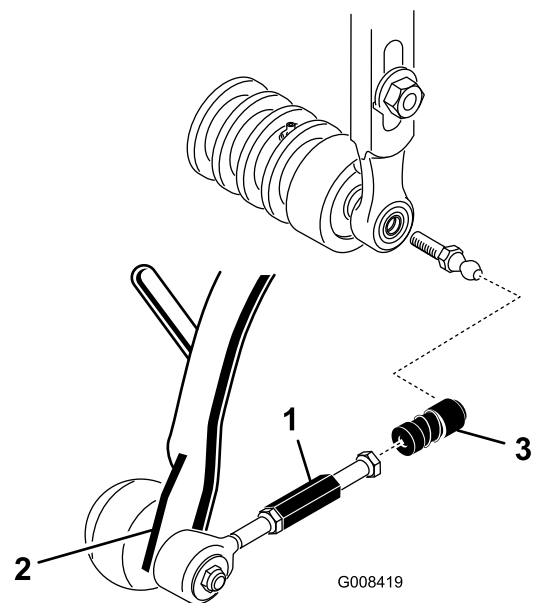

Figure 17
7. Slide the sleeve back on each ball joint receiver and hook the receiver onto the cutting unit ball stud (Figure 17).